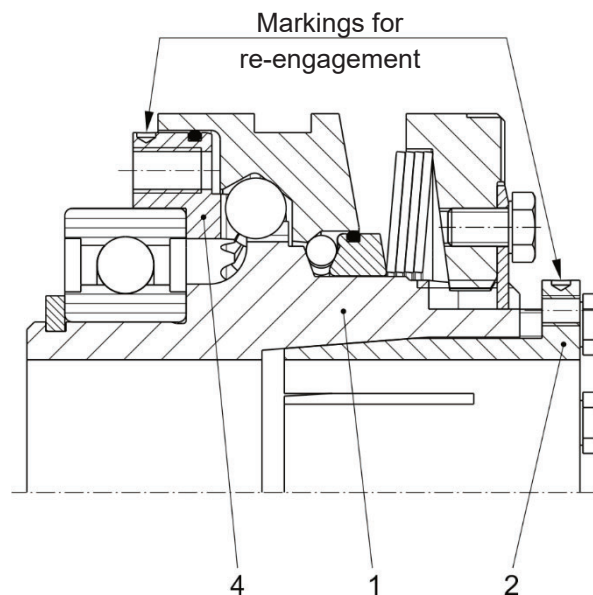

Fig. 6
- ❑ On overload-synchronous designs (Type 4190_._3_._ or 4196_._3_._) with cone bushing (2) the cone bushing is mounted in delivery condition in such a way that its marking bore and the marking bore in the pressure flange (4) align (see Fig. 6). This represents the synchronous re-engagement position of the clutch.
Re-engagement can only take place at the synchronous position for the overload-synchronous designs (Type 419_._._3_._). The marking bores on the outer diameters of the pressure flange (4) and the cone bushing (2) must align (Fig. 6).